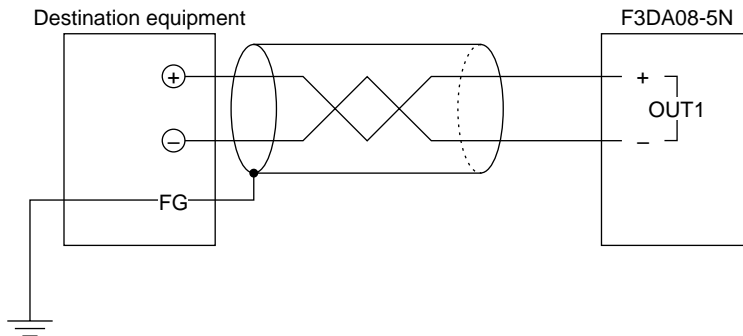

Figure 3.19 Wiring Diagram
- (1) Use a shielded twisted-pair cable to connect the F3AD08-5N module to the destination equipment.
- (2) Ground the shielding wire of the twisted pair cable at the destination equipment as Figure 3.19 shows.